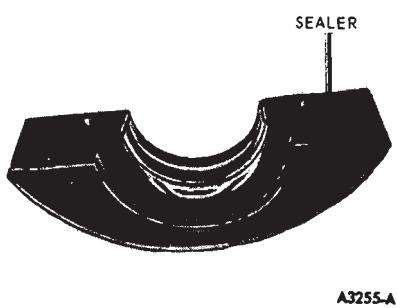

FIG. 32—Sealer Application to Rear Main Bearing Cap
9. Apply a thin coating of oil-resistant sealer to the rear main bearing cap at the rear of the top mating surface (Fig. 32). Do not apply sealer to the area forward of the oil slinger groove. Lubricate the journal with engine oil and install the rear main bearing cap with the rear surface flush or slightly forward of the rear of the cylinder block. Tighten the cap bolts to specifications.